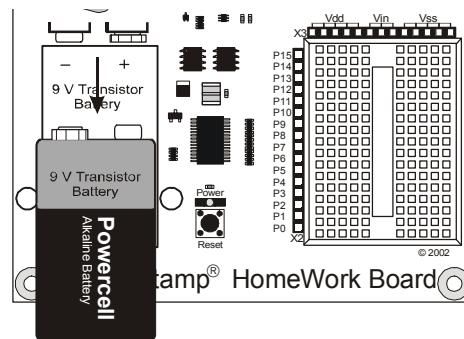

Figure 1-50
- ✓ If you are using the BASIC Stamp HomeWork Board, disconnect the battery as shown in Figure 1-50.